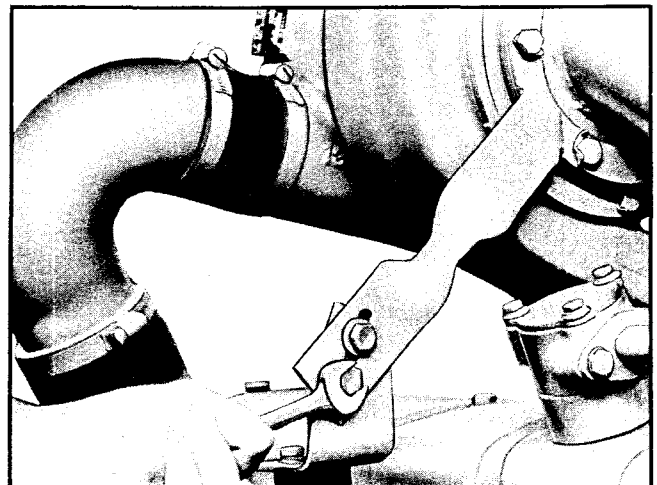

Fig. 4-19. Turbocharger support bracket
5. Secure turbocharger support bracket, if used. (Rear-mount fastens to clutch housing). Fig. 4-19.